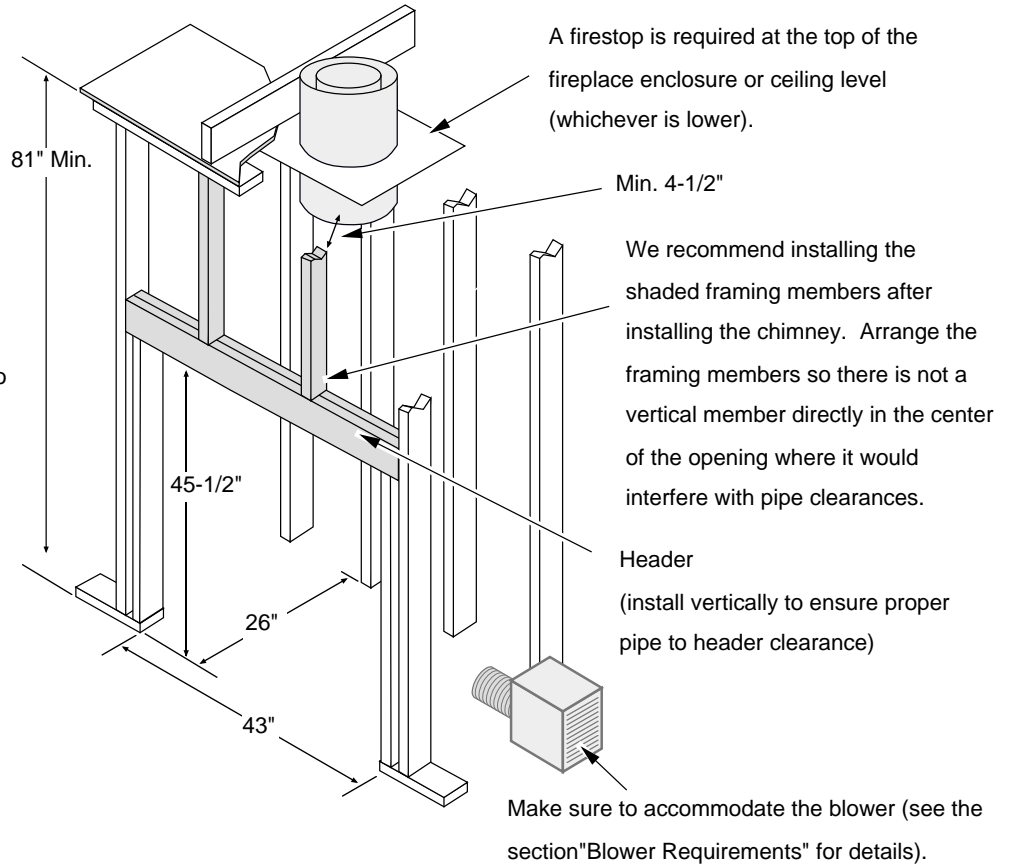

Figure 6
- If the fireplace is raised, the fireplace enclosure must be raised as well (minimum 81" enclosure height from base of fireplace see Figure 6).